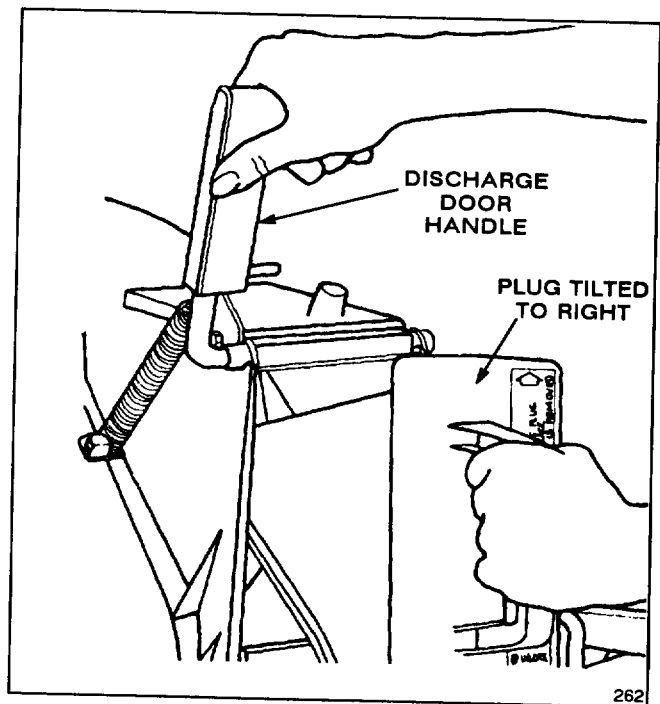

Figure 13
1. Make sure engine is off. Open the discharge door by pulling forward on the handle and moving it rearwards (Fig. 13). Hold the discharge door handle to prevent the spring-loaded door from closing while inserting the plug.
2. Since the plug is slightly wider than the discharge tunnel opening, you must rotate the plug clockwise slightly while inserting it (Fig. 13). Make sure the arrow on the plug decal is pointing upwards.